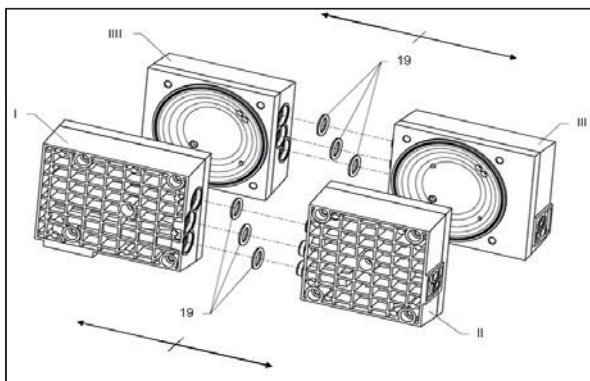

Fig. 7: Removing the o-rings
10. Pull apart heads 1 (Fig. 7/I) and 2 (II) and heads 3 (III) and 4 (IIII) and remove O-rings (19).
3. Place three O-rings (Fig. 7/19) into each of the head connection holes.